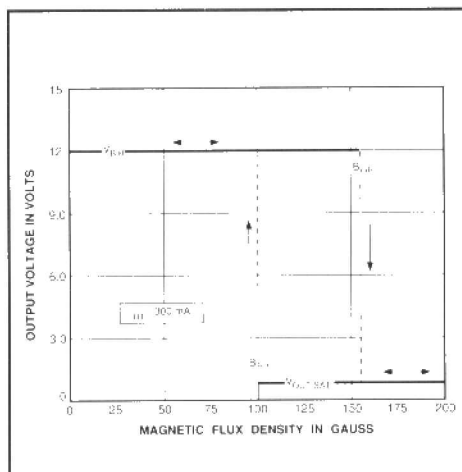

Fig. 3. Typical transfer characteristics at  $T_A = +25^{\circ}\text{C}$ .
**Magnetic operation.** As shown in Fig. 3, the output of the device (pin 2) switches low when the magnetic field at the Hall sensor exceeds the operate point threshold ( $B_{OP}$ ). At this point, the output voltage is  $V_{out(sat)}$ . When the magnetic field is reduced to below the release point threshold ( $B_{RP}$ ), the device goes high. The difference in the magnetic operate and release points is called the hysteresis ( $B_H$ ) of the part. This built-in hysteresis allows clean switching of the output even in the presence of external mechanical vibration and electrical noise.